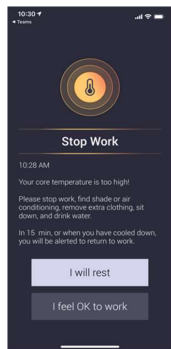

Figure 19: Stop Work
2. When a Stop Work alert is received, select ***I will rest*** (recommended, or ***I feel Ok to work*** (Figure 19).